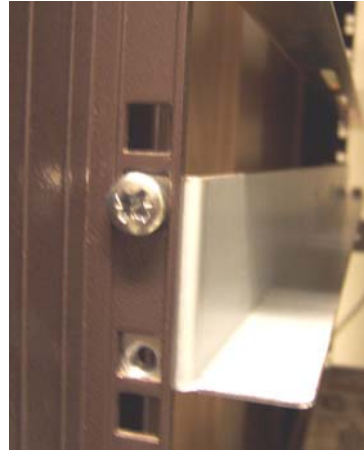

Figure 5. Rack mounting kit mounted in rack
5. Mount the "Rail Left Assembly" at the desired height using one M6x12 screw in front (upper hole in rail only) and two M6x12 screws at the back. See Figure 5.
Figure 5 shows step 5 in the description: